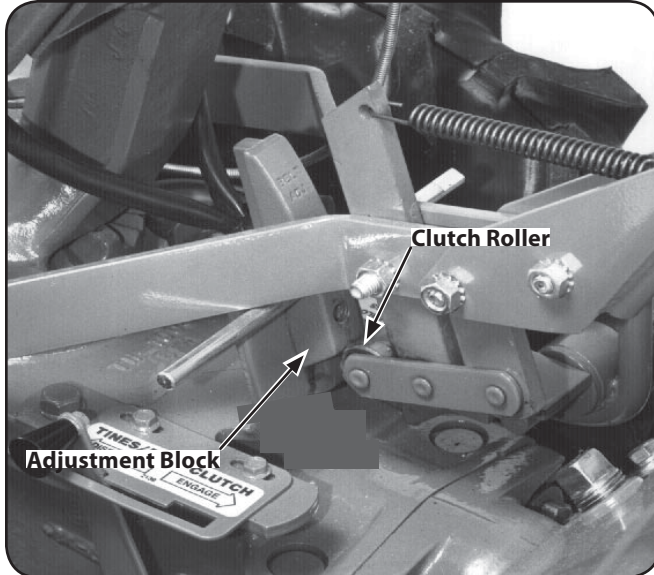

Figure 6-16
4. Place the Wheels/Tines/PTO Drive Lever in FORWARD position. The arms of the clutch control yoke will be resting on the belt adjustment tool and the clutch roller should be engaged slightly beneath the adjustment block. See Fig. 6-16.